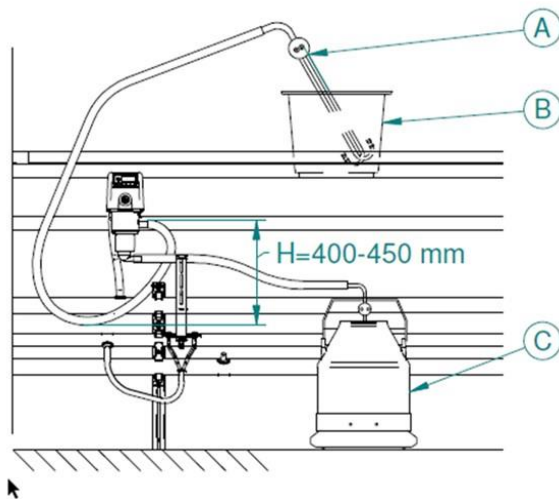

Figure 1: ICAR periodic control.
- a. Flowmeter complete (900 71.000) equipped with a 3.85 mm nozzle (12189) that gives 3 l/min at 38 kPa at high flow and a 1.5mm nozzle (12188) that gives 1 l/min at 38 kPa at low flow, see position A, figure1.
- b. One or more buckets with minimum 20 liter capacity see position B, figure 1
- c. One or more milking buckets for the collection of testing liquid, see position C, figure 1
Remove the milk hose from the milking cluster and replace it with the flow meter (See position A, figure 1). It is important that the hose is guided from the flow meter to the IDC as usual.
Now the testing liquid is lead to a milking bucket (See position C, figure 1) instead of through the milk line.
A bucket with testing liquid (See position B, figure 1), from which the flow meter sucks water is set where the cow would normally stand. Milking bucket must be equipped with "Adapter for bucket lid branch  $\varnothing 16\text{mm}$ " (210 46.303).
- a. Prepare for the as test as figure 1 (See chapter 1.2)
- c. Open both nozzles of the flow meter (See position A, figure 1) and place flow meter in the bucket and press "Start".